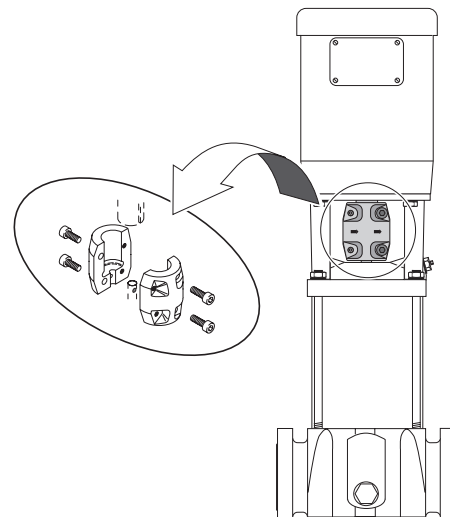
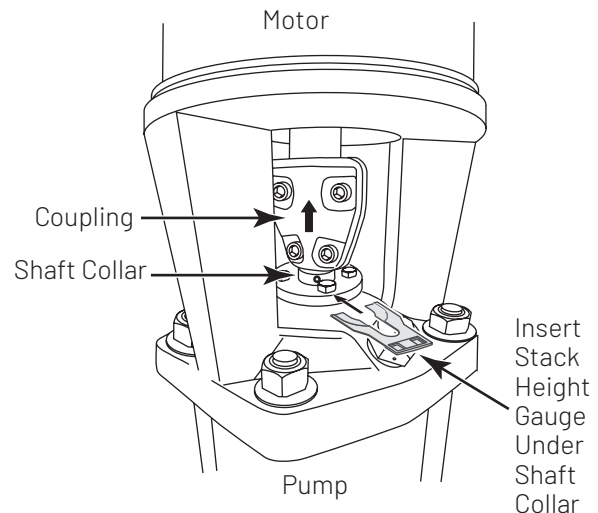

Figure 6 - Remove the Socket Head Screws and the Coupling Halves
Figure 7 - Using the stack height adjusting tool
3. Remove the coupling guards (54).
4. Remove the socket head screws (73) and the coupling halves (44) from the shaft (81). See Figure 6.
5. If your pump has a shaft pin (72), remove it.
12. PVM(X)1-PVM(X)20: Reinstall the shaft pin (72) if your pump has one. Raise the height of the pump shaft by using the shaft pin (72) as a lift point (you may have to put a block under the pin and lift with a flat screwdriver). Insert the stack height adjustment tool (see Figure 7) in below the shaft collar and let the shaft collar rest on it.
PVM(X)33-PVM(X)90: Pick up the shaft (if necessary, temporarily reinstall the coupling to provide a grip to lift by) and insert the stack height adjustment tool (see Figure 7) below the shaft collar. Let the shaft collar rest on it.